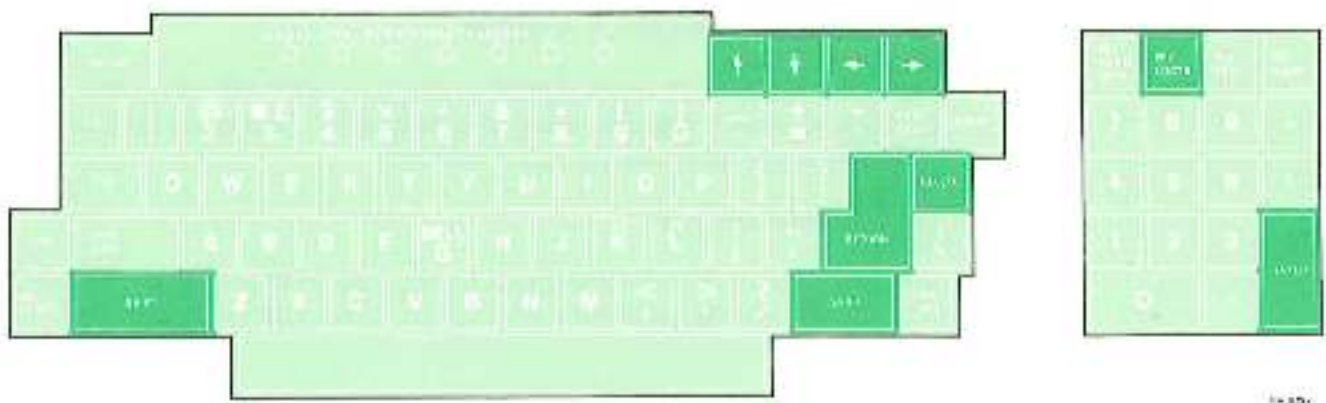

FIGURE 3-5 Locator Mode Keys
Figure 3-5 identifies the keys that have a special meaning to the terminal in locator mode. The following paragraphs briefly describe the function of the locator keys in locator mode. If you press any keys other than those described, the terminal exits locator mode, sends the code of the key pressed, and then sends the screen location of the locator cursor. If the terminal enters locator mode through the host computer, the terminal sends a carriage return (CR) code followed immediately by the key code.